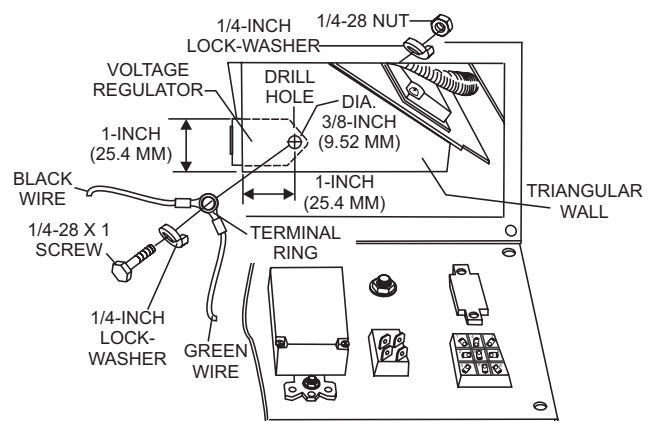

Figure 9. Voltage Regulator Mounting
16. Using a 1/4-inch drill, drill a hole into the triangular wall behind the control panel as shown in Figure 9.
18. Place regulator behind wall, insert 1/4-28 x 1 screw with green and black wires through mounting hole to hold regulator in place. Secure regulator with lock washers (2), and nut. Tighten securely.